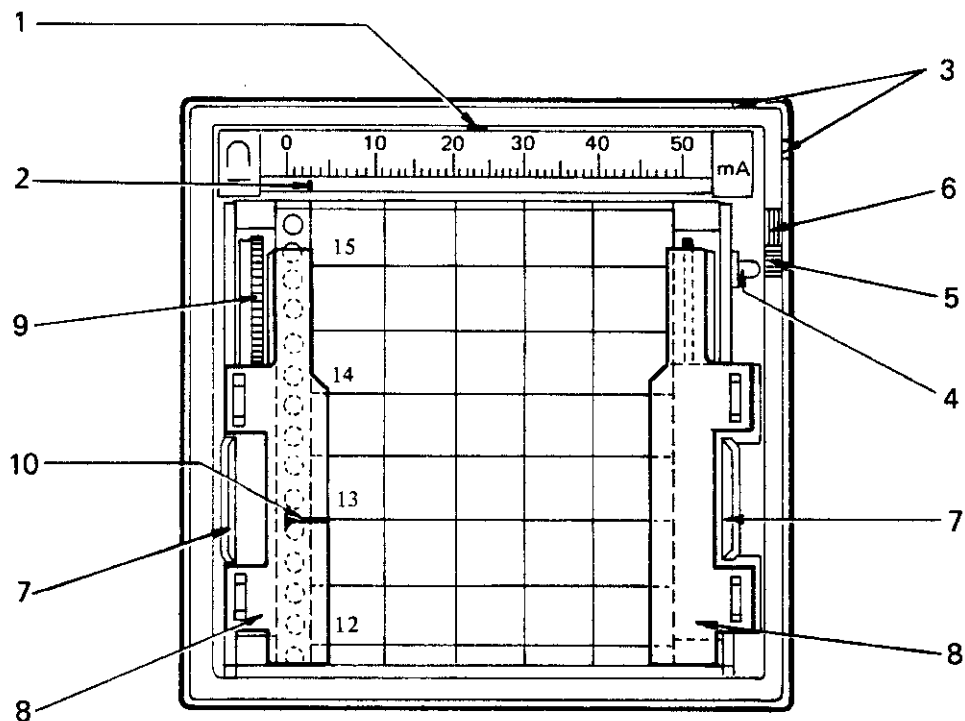

Fig. 2 RECORDER FRONT (TIME OF RECORDING 16:00 HRS)
9. Refer to fig. 2. The front panel controls are as follows:--
11. Refer to fig. 2. When the front cover is removed (para. 10) the locking lever (4) which also actuates a microswitch in the mains circuit to the synchronous motor becomes accessible. In the lower position marked by a green tab (5) the chart motor is switched on and locked into the case. In the upper position indicated by the red tab (6) the motor is switched off, the chopper bar is locked in the up position so that the pointer (2) is free and the chart drive unit is released. The drive unit can then be pulled forward by the two grips (7). The chart can be changed and/or the chart drive speed altered.
12. Refer to figs. 2 and 3. Open the recorder as described in paras. 10 and 11, the chart drive can now be swung downwards to give access to the chart feed spool (12) and the take up spool (19). These are positioned by means of spindles fitted into slots (13) & (20) and by spring clips (11) & (18). To replace a chart roll press the feed spool (12) slightly upwards and lift it out of the slots ensuring that the chart drive unit has been swung down for ease of access. Remove the expended chart tube, and push a new roll of chart into the spool (perforated edge towards the flange) which is then placed back in the slots with the flange to the left hand side and pressed downwards until locked. Pull about 20 cm (8 in.) in preparation for inserting the V-shaped end of the chart into the take up spool (19). The chart drive unit is now moved to the horizontal position, and the take up spool (19) is removed by gripping it from below, exerting slight forward and downwards pressure removing the spool from slot (20). When the right hand flange has been pulled clear of the spindle, the used chart can be removed. Refit the flange and push the V-shaped end of the new chart into the slot of the take up spool (19). Wind a few turns onto the spool with the face of the chart inwards, the flange and cog wheel should be to the left. Open the chart guides (8), and place the chart over the chopping roller (15), chart drive roller and guide roller (9) inserting the take up spool (19) into its slots (20) gently exerting upward pressure until the roller is locked in position. Return the chart guides (8) to their normal position and check that the chart perforations are correctly located on the drive roller sprockets. Return the chart drive unit into the case locking it into position with the lever (4) in the green (5) position. To set the start time, see para. 13.
13. By using the knurled rim (9) on the upper left hand side of the chart roller the chart can be moved manually. On the left hand side chart guide there is a mark (10) (see fig. 2) at a distance of 60 mm from the recording edge. If the recording chart is to be aligned with the time of day the chart must be moved by use of the knurled rim so that the timing which is 60 mm in advance of the required time, is aligned with the mark, e.g. for a paper speed of 20 mm/h time of day less 3 hours.